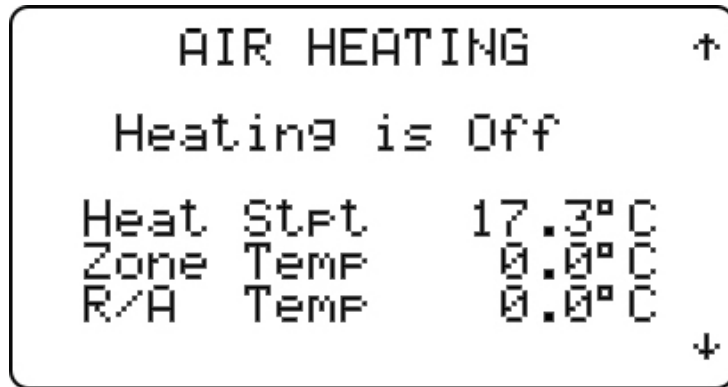

Figure 46
4.3.4.2.2 Tuning - Air Heating (Figure 46)
Pressing the **DOWN** key will now display the AIR HEATING screen (Figure 46). This screen shows the state of the air heat and the associated set points and temperatures. Press the **DOWN** key for the next Tuning screen.